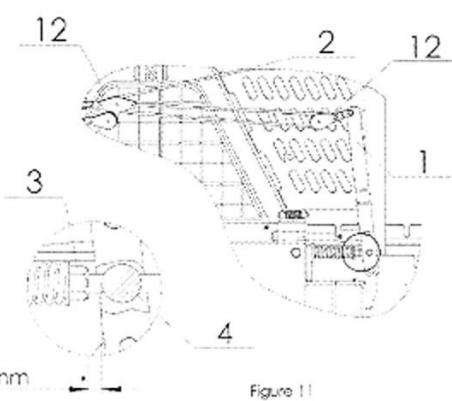

Figure 11
Once the winch is correctly connected, we start to unwind the wire rope. We do this so that we pull the wooden handle on the red rope (pos. 2, figure 11) and in this way move handle 1 in direction OFF (figure 10). Brake is released and the wire rope can be unwound. In case that we just installed the wire rope on the drum or we observe that it is not properly wound, we unwind the entire length of the wire rope and wind it strong, as given in the start of this chapter.
Any intervention in the engagement mechanism, which would stop synchronous operation of the clutch and the brake, is prohibited. It is also prohibited to pull the red rope of the brake (pos. 2, figure 11) during towing.
Brake setting is done by a nut [pos. 3, figure 11]. Brake handle [pos. 1] is in OFF position (figure 10). Firstly, use a fork wrench to set the nut [pos. 3]. Distance between the roller [pos. 4] on the handle and the nut should be approximately 1/4". If the brake force is not sufficient, repeat the procedure and tighten the nut [pos. 3] again to the right. If the brake is set to excessive force, the unwinding of the rope is made more difficult. Therefore, the nut must be loosened somewhat to the left.